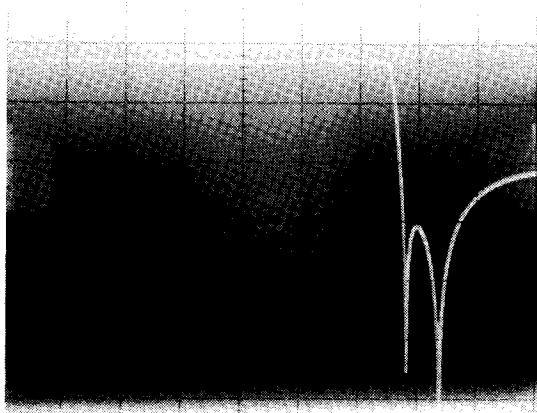

Fig. 4-2: Typical Card #3 Frequency Response
- A To test the left channel, inject signal at TP4 and measure the frequency response at TP1. Fig. 4-2 shows a typical Card #3 frequency response measurement. The scale of Fig. 4-2 is 10dB/div vertical and 2kHz/div linear horizontal.